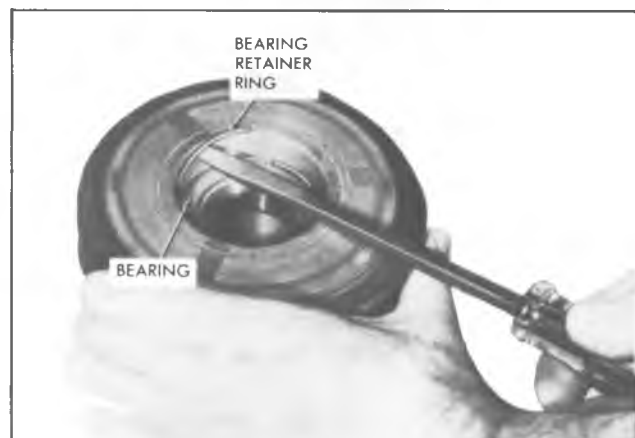

Fig. 13--Removing Pulley and Bearing Retainer Ring
3. Remove pulley bearing retainer ring with a small screwdriver or pointed tool (Fig. 13).